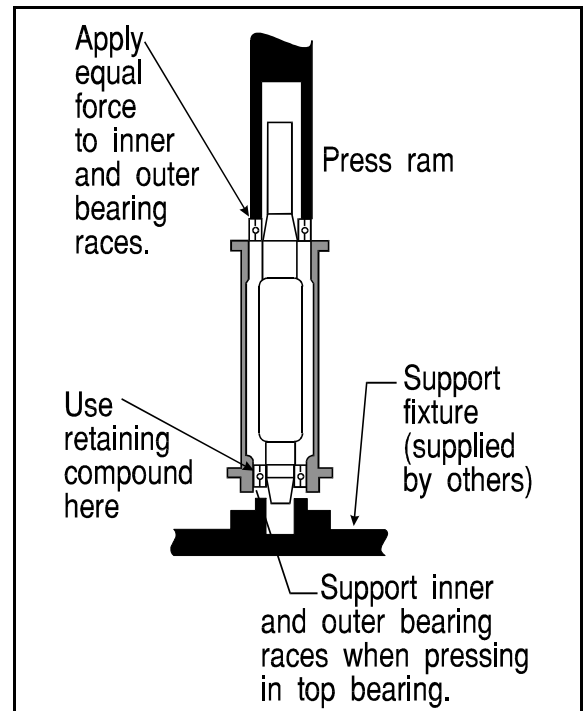

FIGURE 2 (MSSM0709BE)
4. Install a new inner retaining ring inside the housing and apply a small amount of retaining compound (Loctite 271 or similar) around the bearing seating surface of the bearing housing as shown in FIGURE 2. Press the new bearing in the housing, applying equal force to the inner and outer bearing races. Install a new outer retaining ring in the housing.
5. Slide the other new bearing onto the shaft and place the shaft inside the housing with the tapered end into the installed bearing. Place the assembly under the press with the housing completely supported by the inner and outer race of the bearing as shown in FIGURE 2. Simultaneously press the bearing onto the shaft and into the housing until the bearing bottoms out, applying equal force to both inner and outer bearing races. Install a new shaft clip (tapered end only).